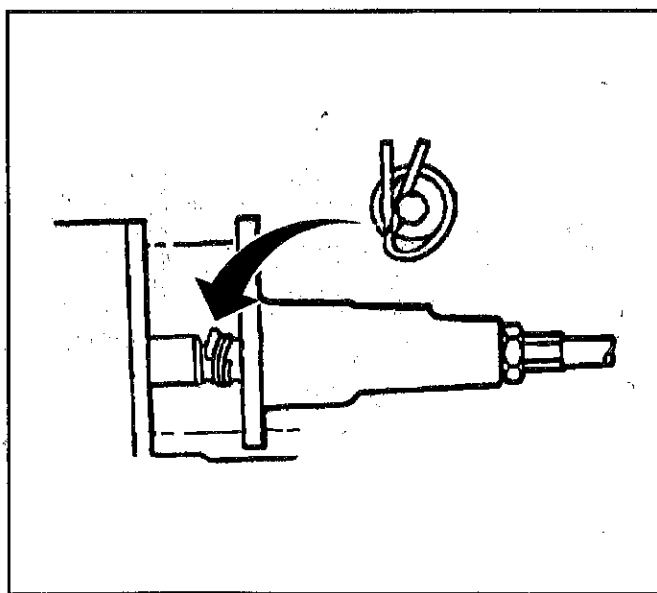

Figure 19—Disconnecting the Shift Cable from the Carrier
3. Shift cable housing from the carrier assembly. Pull out about 20 mm (3/4 inch) (Figure 19).